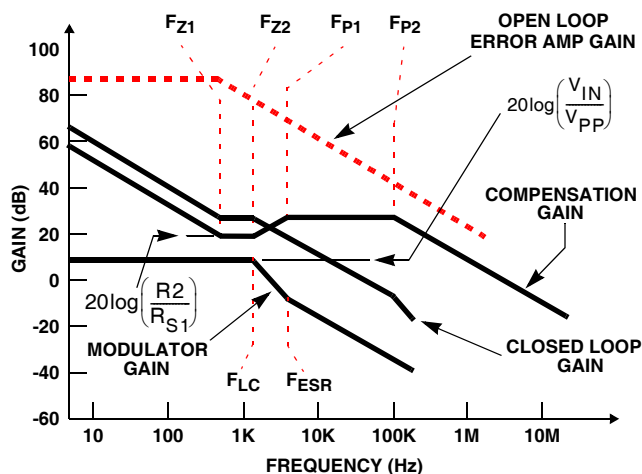

FIGURE 6. ASYMPTOTIC BODE PLOT OF CONVERTER GAIN
The compensation network consists of the error amplifier (internal to the ISL6432) and the impedance networks Z_{IN} and Z_{FB} . The goal of the compensation network is to provide a closed loop transfer function with high 0dB crossing frequency (f_{0dB}) and adequate phase margin. Phase margin is the difference between the closed loop phase at f_{0dB} and 180 degrees. The equations below relate the compensation network's poles, zeros and gain to the components (R_1 , R_2 , R_3 , C_1 , C_2 , and C_3) in Figure 6. Use these guidelines for locating the poles and zeros of the compensation network:
Figure 6 shows an asymptotic plot of the DC-DC converter's gain vs. frequency. The actual Modulator Gain has a high gain peak dependent on the quality factor (Q) of the output filter, which is not shown in Figure 6. Using the above guidelines should yield a Compensation Gain similar to the curve plotted. The open loop error amplifier gain bounds the compensation gain. Check the compensation gain at F_{P2} with the capabilities of the error amplifier. The Closed Loop Gain is constructed on the log-log graph of Figure 10 by adding the Modulator Gain (in dB) to the Compensation Gain (in dB). This is equivalent to multiplying the modulator transfer function to the compensation transfer function and plotting the gain.